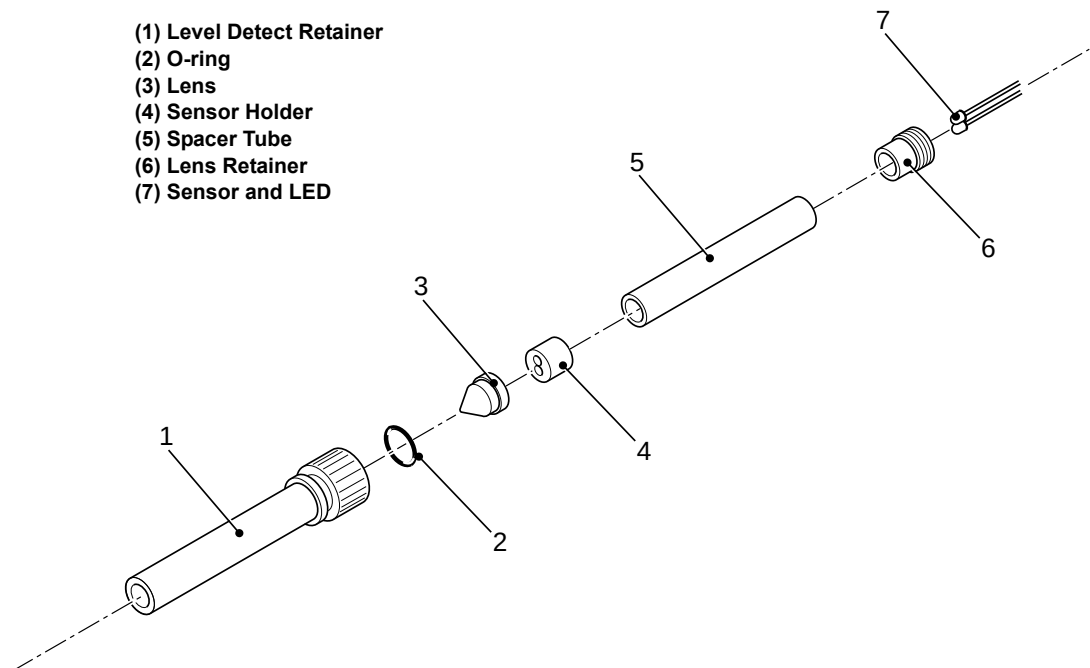

Figure 8-10. Level Detector
- 2 Unscrew the lens retainer (Item 6 in Figure 8-10) and thread it over the trailing leads of the sensor and LED.